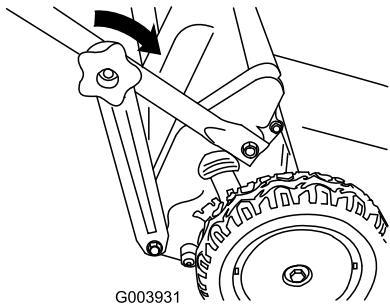

Figure 19
3. Install the lower handle knobs and tighten the knobs as tight as you can by hand (Figure 19).